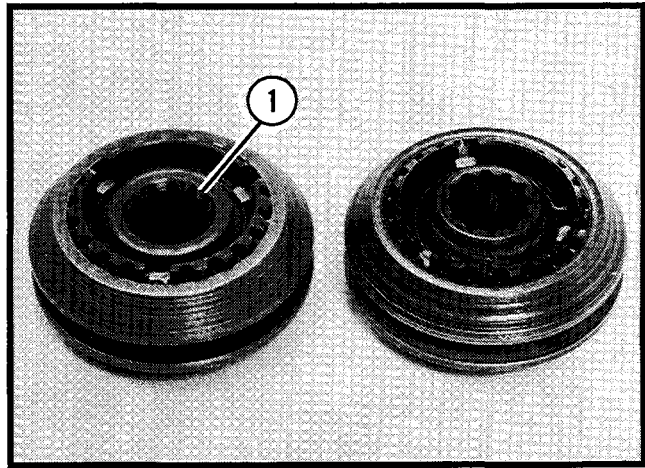

Figure 12.
- Ensure that the hub goes onto the shaft in the proper direction or the main drive gear assembly will not fit completely onto the main shaft. (The taper on the inside of the hub shaft must go onto the main shaft first.) See Figure 12.